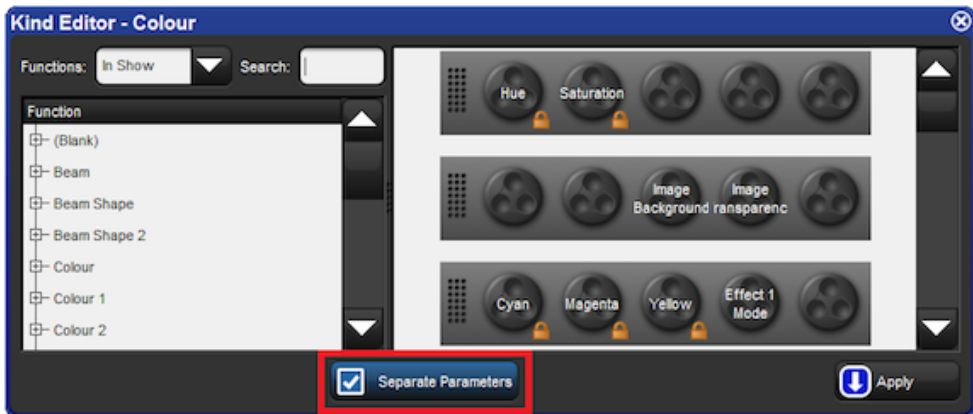

Figure 6.12. A Kind Editor for the Colour kind with seperate parameters turned on.
2. Toggle separating parameters on and off by pressing the parameter type buttons; see *Figure 6.12, "A Kind Editor for the Colour kind with seperate parameters turned on."*